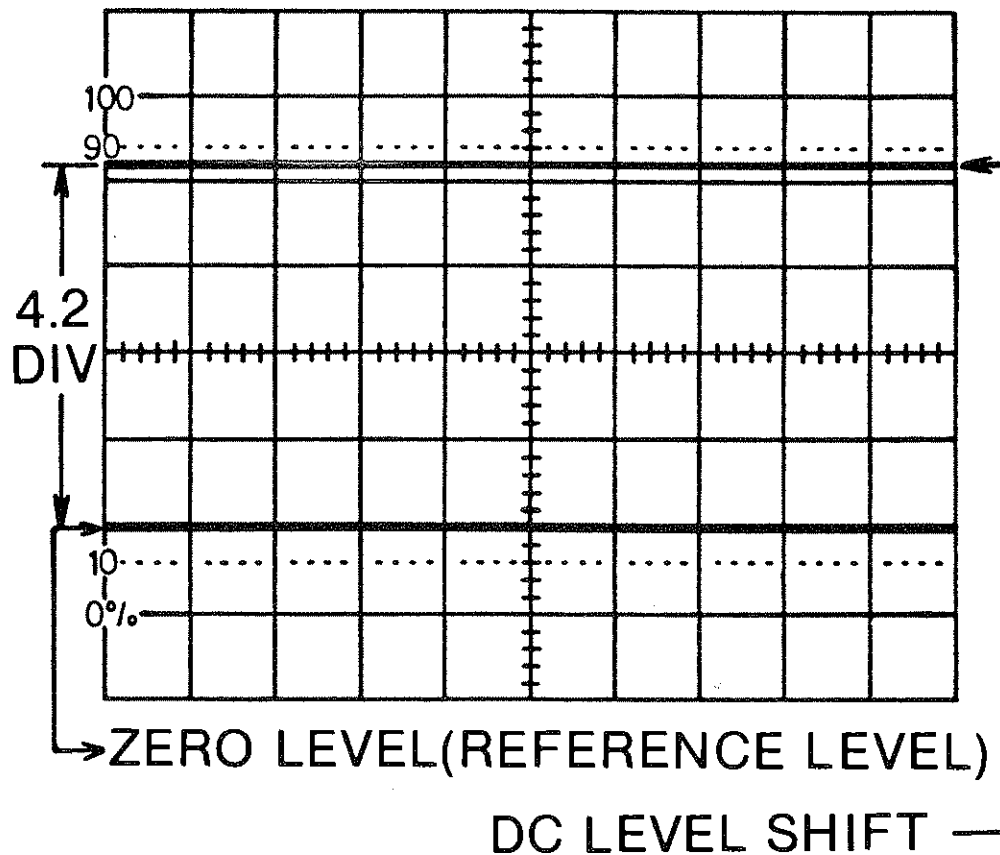

Figure 4-5 DC Voltage Measurement
5. Baseline shifts by the amplitude of DC voltage. Multiply measurement of shift divisions by value indicated on VOLT/DIV switch. For example, in Figure 4-5, when VOLT/DIV is 50mV/DIV, the shift division is 4.2DIV, then the DC voltage (V_{dc}) is: $50\text{mV/DIV} \times 4.2\text{DIV}$: